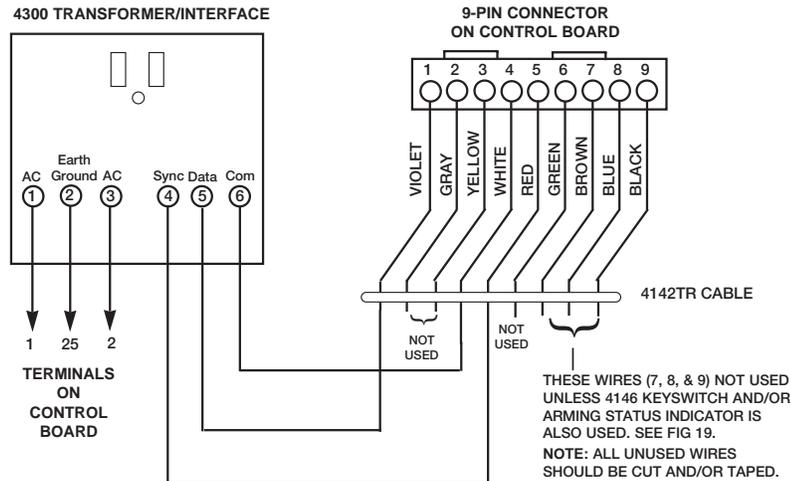

Figure 5. Connections of 4300 Transformer To The Control Board
- a. Terminals **1**, **3** (AC), and **2** (Ground) to control board terminals **1**, **2**, and **25**, respectively (see Figure 5). See table below for wire gauge to use.
- b. Wire the other three terminals (Sync, Data, Com) on the 4300 transformer. Wires from these terminals must be connected to a 9-pin connector on the control board (using a 4142TR cable supplied with the 4300 transformer), as shown in Figure 5. These particular wires can be 24 gauge or larger, and can be run along with the AC and ground wires to the control panel.